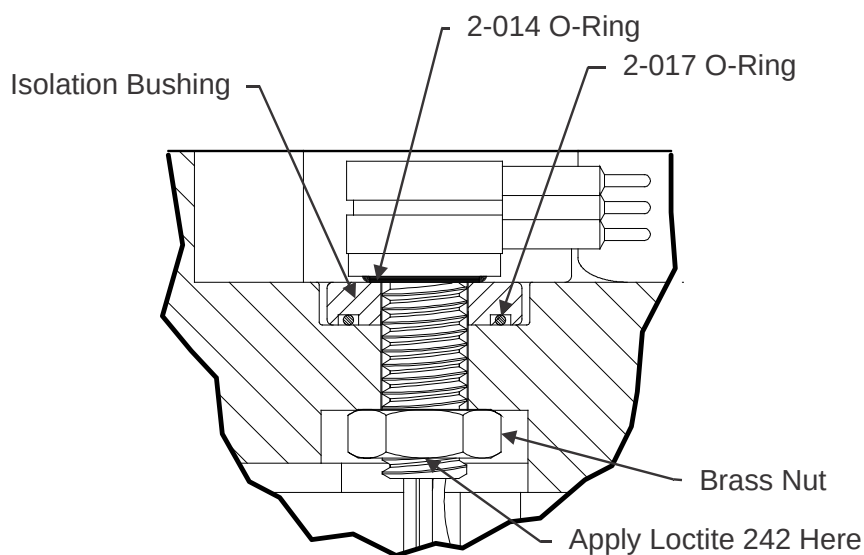

Figure 37. End-Cap Connector with Isolation Bushing
3. Systems with a metal end-cap use an isolation bushing and 2-017 O-ring between the end-cap and the 7-pin connector. Press the new bushing and O-ring onto the end-cap as shown in Figure 37.